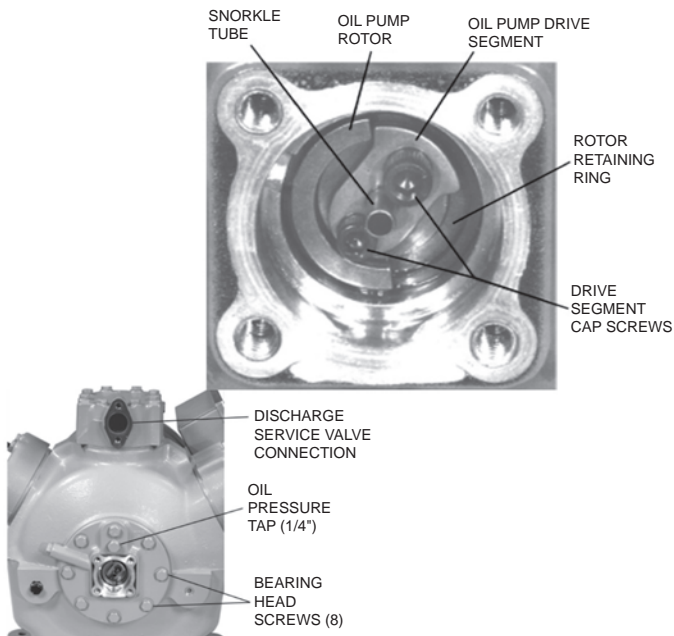
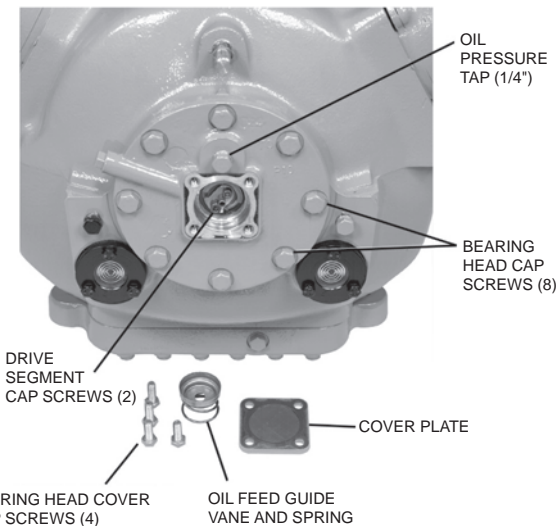

Fig. 7 — Removing Pump End Bearing Head (06D Compressor)
Fig. 8 — Removing Pump End Bearing Head (06E Compressor)
An oil pressure tap is located in the bearing head assembly used on all 06D refrigeration duty, newer 06D A/C duty, and all 06E refrigeration and A/C duty compressors (Fig. 7 and Fig. 8).
1. To disassemble, first remove four (4) cap screws from the bearing head cover plate and remove the oil feed guide vane and spring.
Remove the two (2) drive segment cap screws from the end of the crankshaft (see Fig. 7 and Fig. 8). **These screws must be removed before the bearing head can be removed.**
2. Remove the eight (8) cap screws holding the bearing head assembly to the crankcase. Remove the bearing head assembly by pulling forward.
IMPORTANT: The 1/4 in. snorkel tube should face away from the crankshaft (Fig. 7).